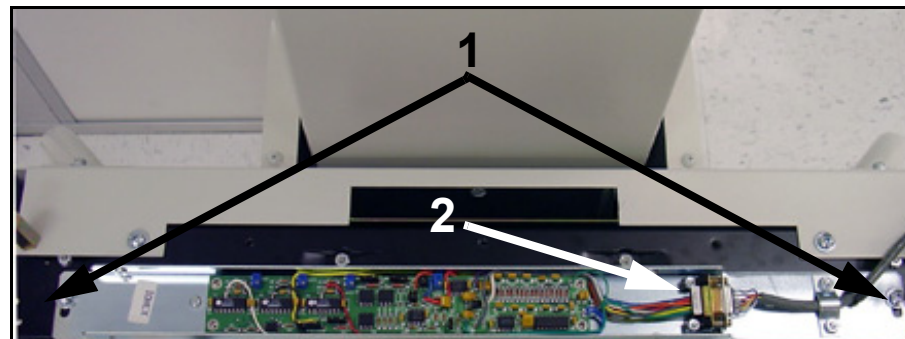

Figure 6-18. ION Chamber Mounting Screws
- 6 Unscrew the ION chamber mounting screws (1 in Figure 6-18) and lift the ION chamber (2) out of the cabinet.